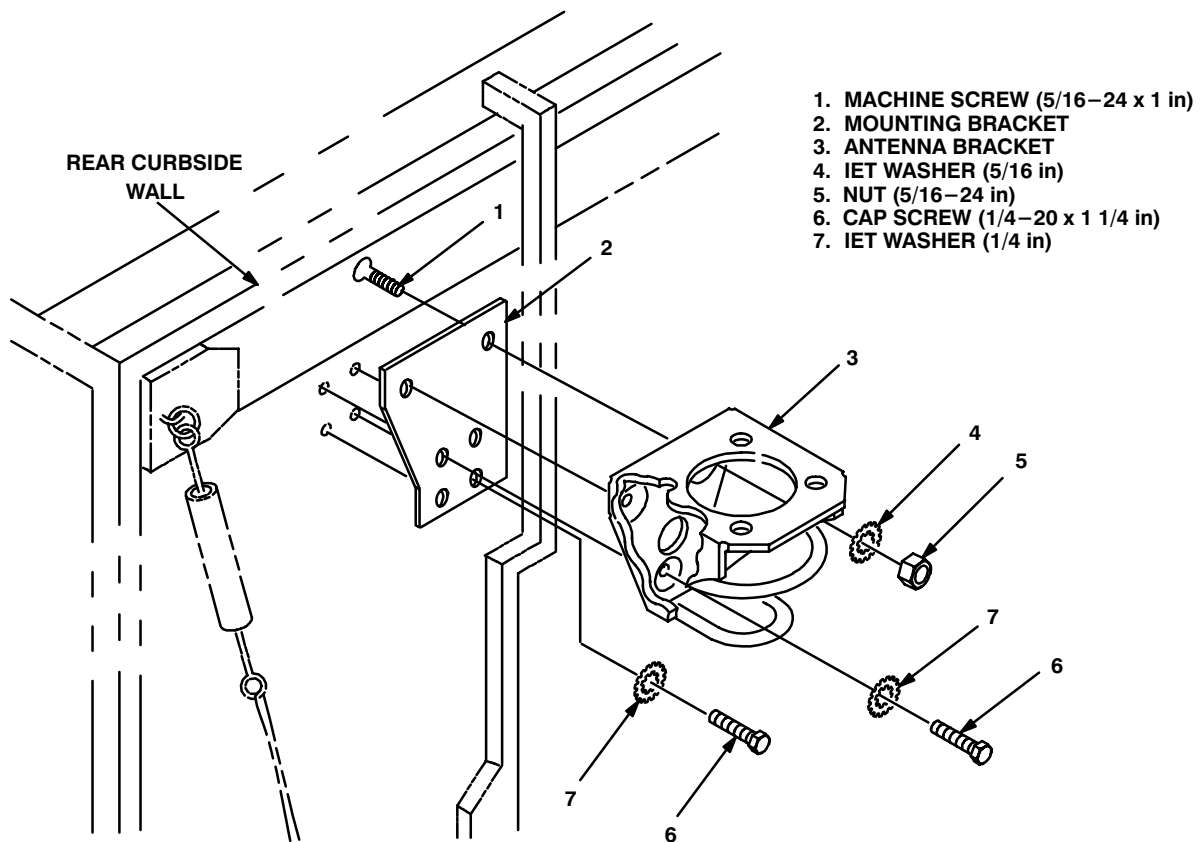

Figure 5-2 (1). Antenna Base Installation: Installing Antenna and Mounting Brackets
| a. Antenna bracket (3) and mounting bracket (2). | Join together and align two top mounting holes. See figure 5-2 (1). | |